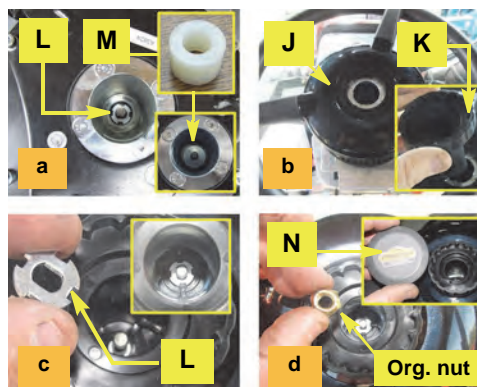

Figure 5 (a-d): Telescoping actuator installed
- Install one telescoping actuator plate **L** on the actuator shaft inside the steering wheel assembly (Figure 5-a). Install spacer **M** on the plate (Figure 5-a insets).
- Install the second actuator plate **L** locating its slots on the actuator's lugs (Figure 5-c).